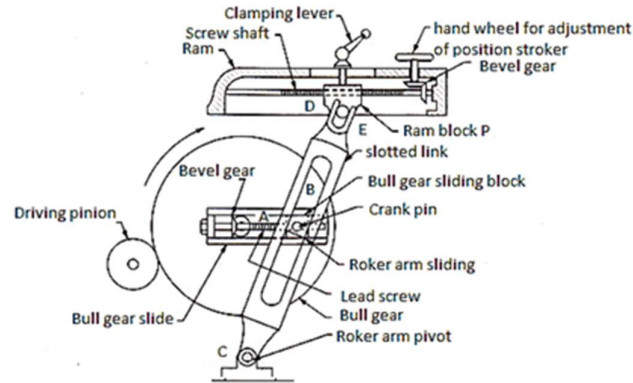

Fig.6.5 – Crank and slotted link mechanism
- ▶ The crank and slotted link mechanism is shown in Fig 6.5